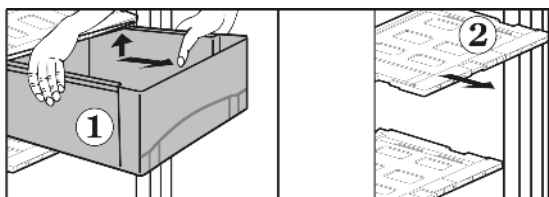

Fig. 11
- ▶ Pull out drawers Fig. 11 (1) to the limit.
- ▶ Disengage drawer cover Fig. 11 (2) with humidity controller of removed drawers by lifting and draw it forwards for removal.